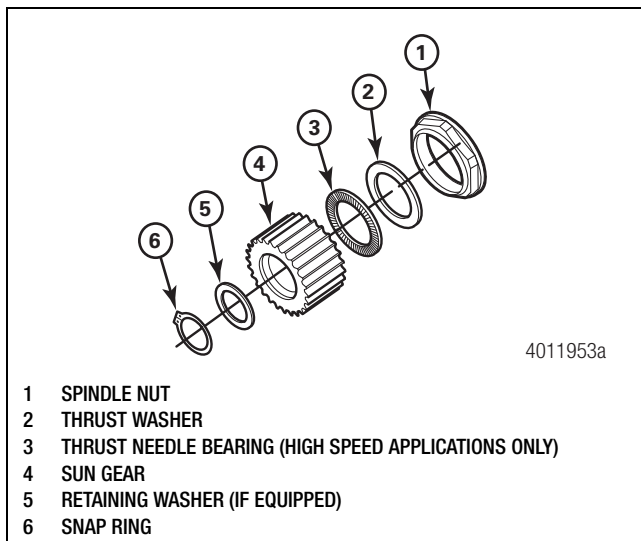

Figure 13.7
10. For Low Speed wheel ends, install the sun gear thrust washer against the spindle shoulder with the tabs facing inward. For High Speed wheel ends, install the thrust washer against the spindle shoulder. Lightly coat the thrust needle bearing with oil and install the thrust needle bearing on the spindle against the thrust washer. Figure 13.7.